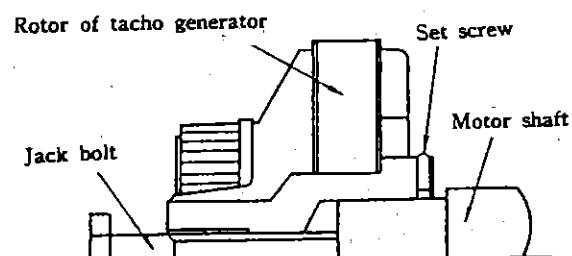

Fig. 8-7
- o Loosen the setscrew and withdraw the rotor while tightening the jack bolt (M12 x 100) by using the tapped hole on the inner surface of the rotor boss (Fig. 8-7).